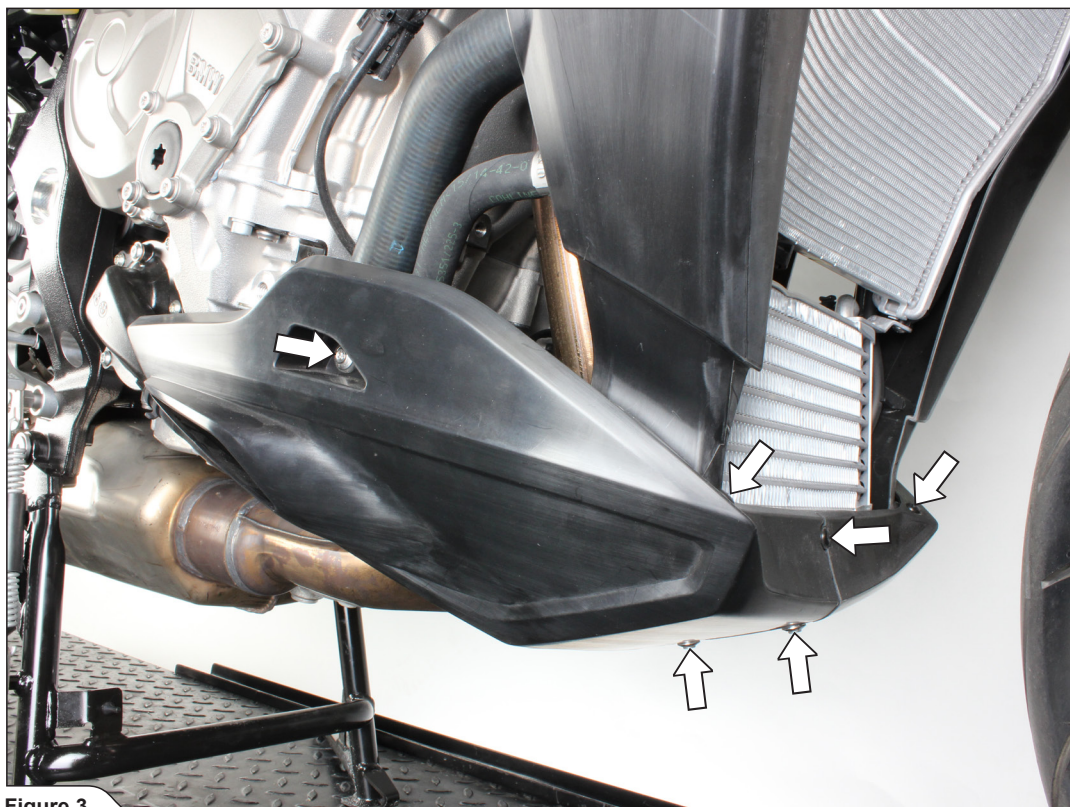

Figure 3
3. Unscrew the marked bolts and undo the plastic fasteners on both sides of the motorcycle and carefully remove the lower part of the cowling off the motorcycle (**Figure 3**).